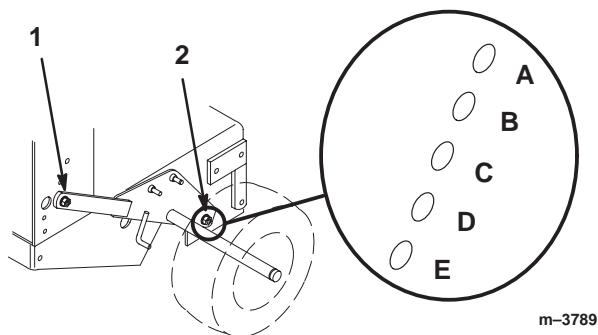

Figure 19
- Loosen, but do not remove, the 2 axle pivot bolts and the 2 axle adjustment bolts (Fig. 19).
- Place a jack under the rear center of the engine frame. Raise the back end of the engine frame up enough to remove the front 2 axle adjustment bolts (Fig. 19).
- Raise or lower the engine frame with the jack so that you can install the front 2 axle adjustment bolts in the desired hole location (Fig. 19).